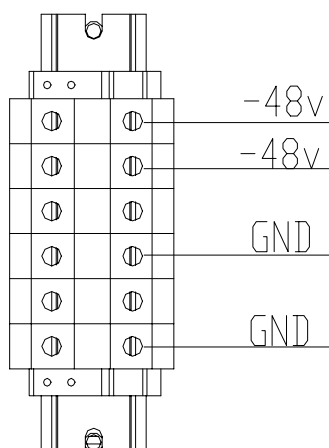

Figure 4-12 Installing power cables
- 1) Insert the cold-pressed terminal of a power grounding cable (35 mm² black cable) to the GND terminal on the terminal block of power input on the top of the cabinet, as shown in Figure 4-12.